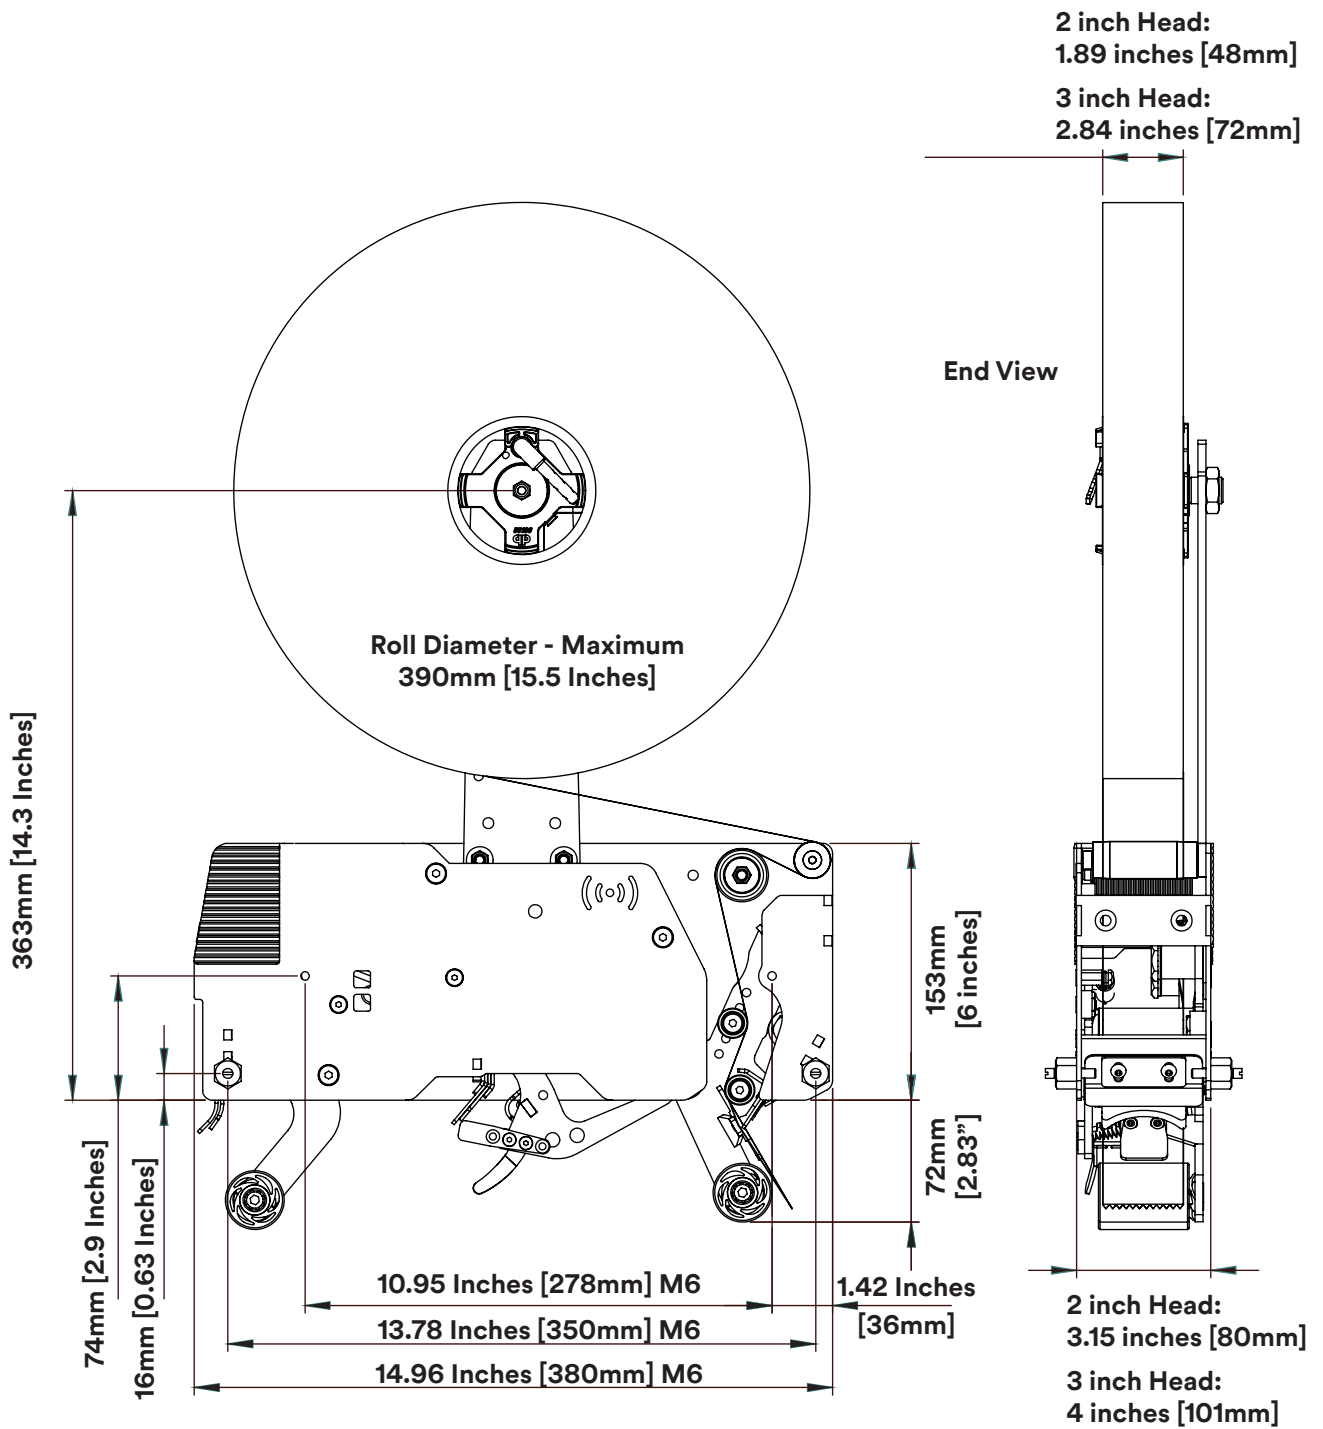

Figure 2-1 Dimensional Drawing
The taping head assembly can be used in converting existing or in custom made machinery. It can be mounted for top taping or bottom taping. Refer to “Box Size Capacities,” as well as **Figure 2-1** in the Specifications section, for following points making installations:
3. Information is provided for the physical dimensions and mounting locations for both the 2” and 3” Taping Heads in **Figure 2-1**.